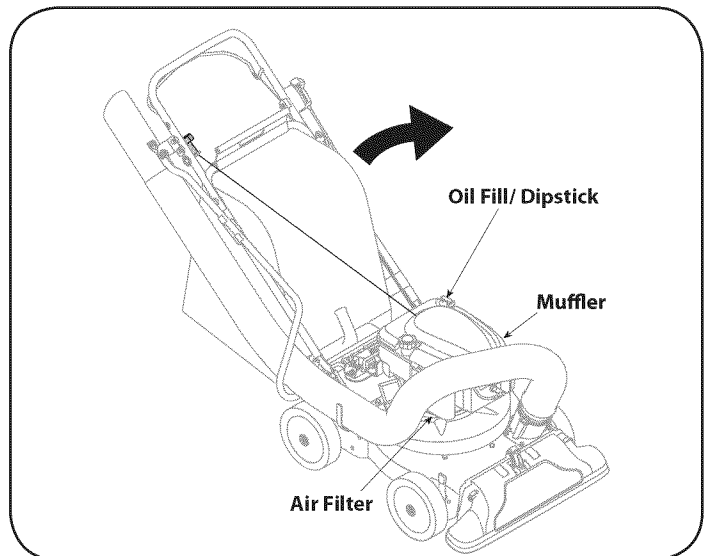

Figure 19
3. Remove the oil fill dipstick and drain the oil into the container by tipping the engine toward the oil filler neck. See Figure 19.